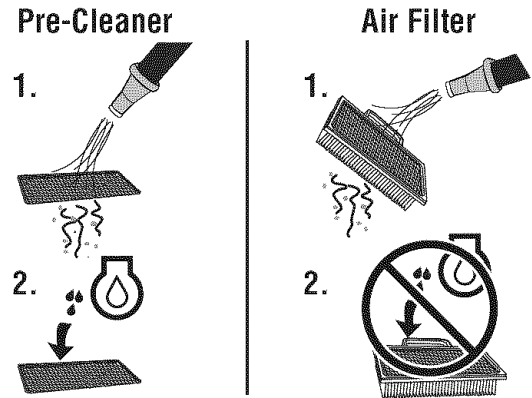

Figure 30. Air Filter Service
1. Figure 30. Wash the pre-cleaner in liquid detergent and water.
1. Figure 30. If stamped "Washable," the filter can be washed with warm water and mild soap.